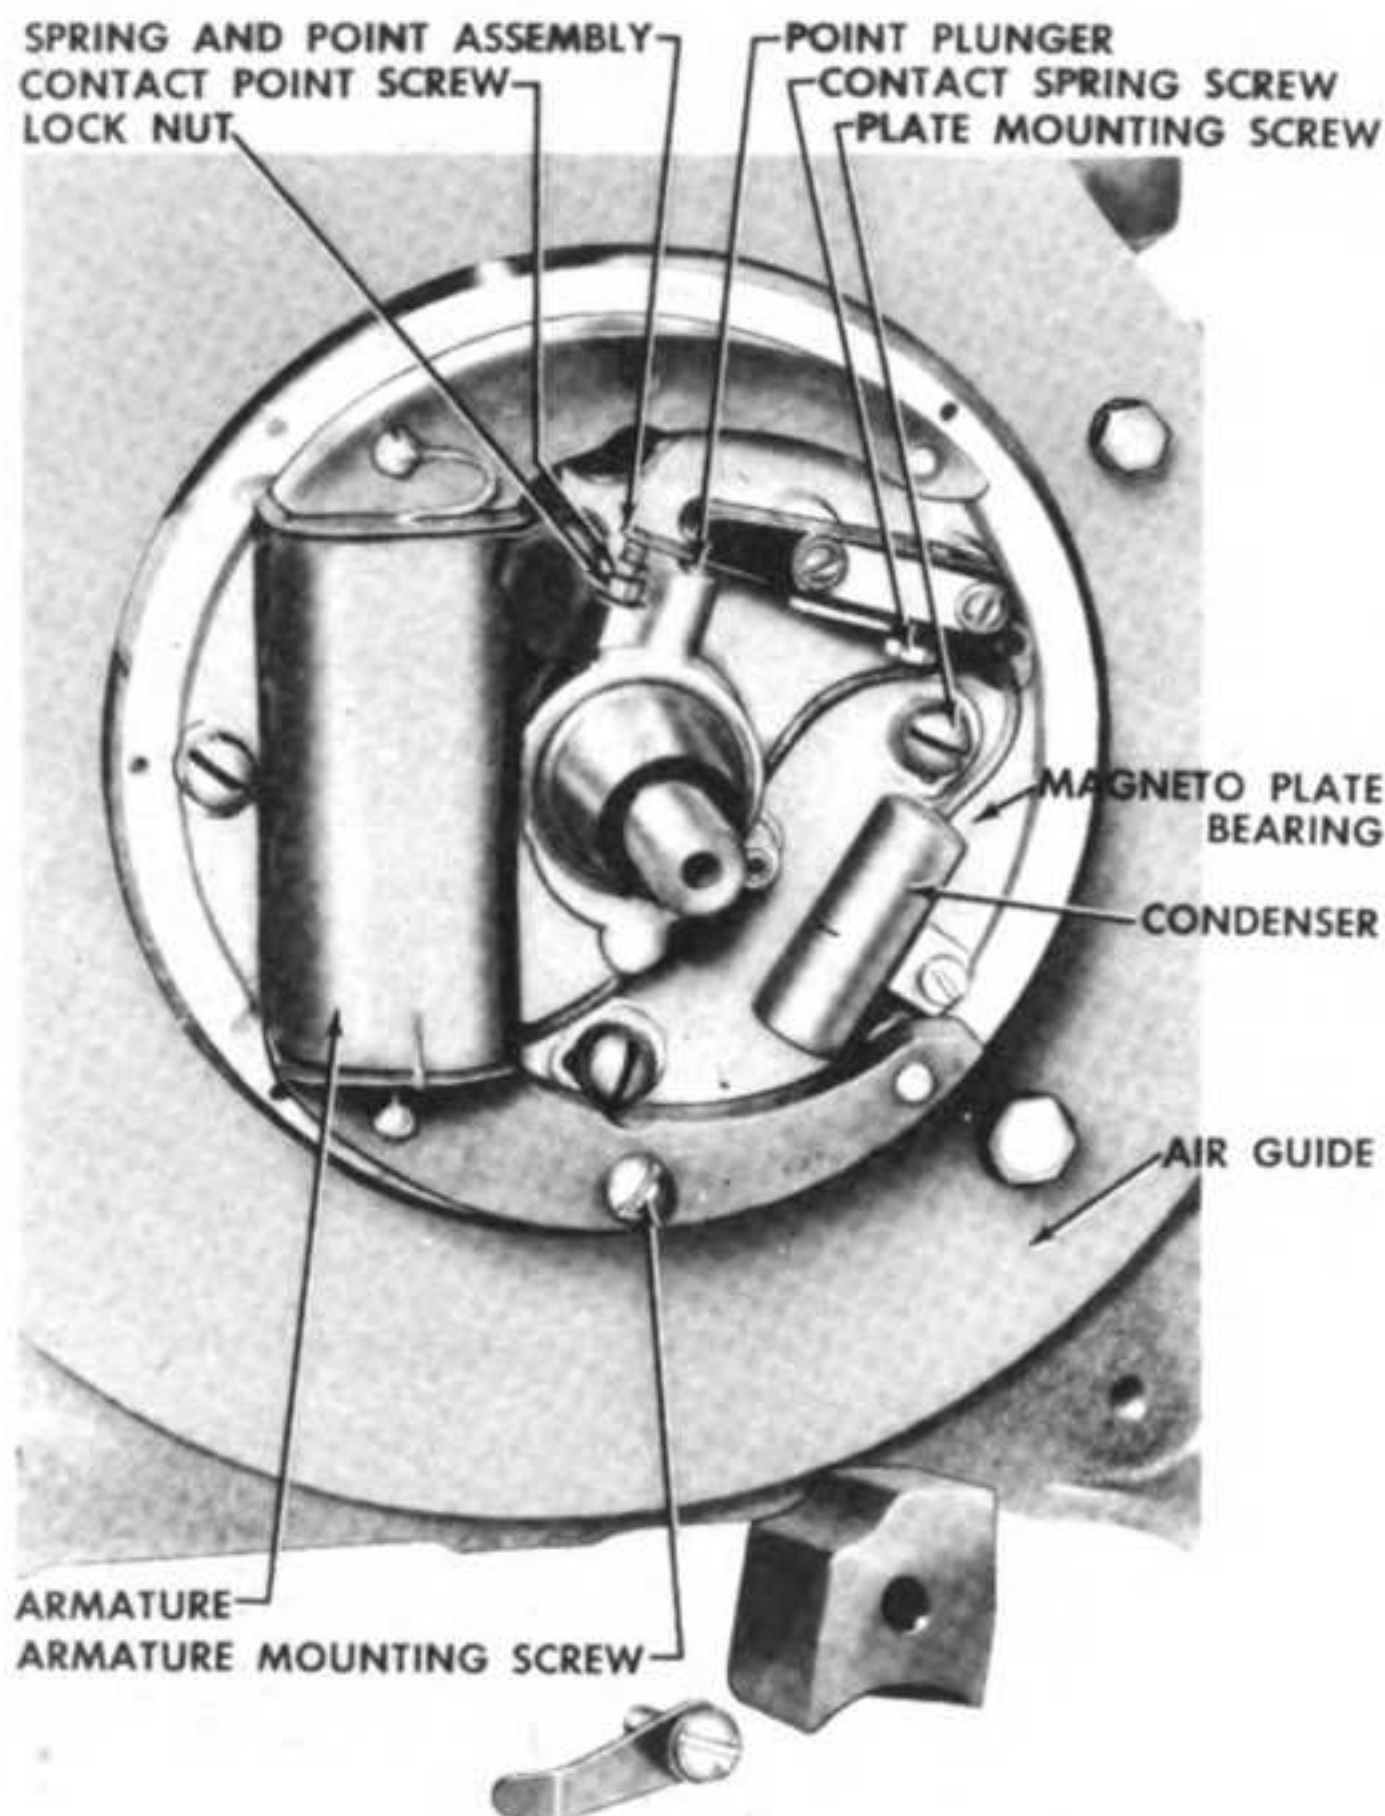

Figure 48—Magneto Detail
a. Remove the flywheel, following procedure outlined in paragraph 52.h. (See figure 48.)
(b) Unscrew two armature mounting screws and pry armature loose. (See figure 48.)